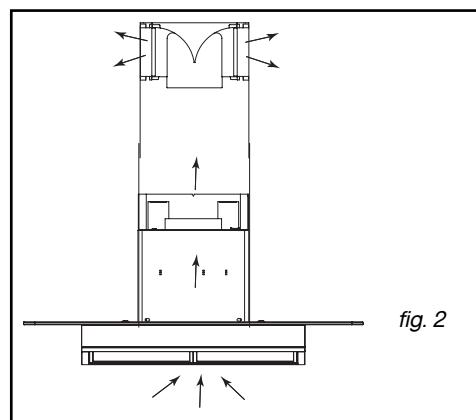

fig. 2
(fig. 2)
- Using the rectangular cut-outs, attach the suction hood to the two brackets (fig. 2). The size of these cut-outs allows you to adjust the position to the right or left.
- Mount the back-flow valve near the motor outlet (fig. 2). This back-flow valve makes it possible to block the entry of air from the outside.
- Using the two screws (fig. 2), attach the plastic smoke deflector against the wall, flush with the ceiling. Be careful to centre the deflector in relation to the vertical line drawn on the wall (fig. 2).